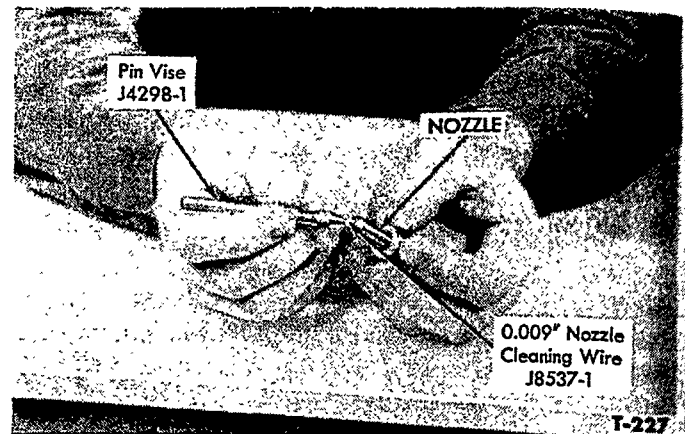

Figure 13—Cleaning Nozzle Discharge Holes
3. Clean the spray holes in the nozzle with the 0.009" Cleaning Wire J8537-1 and the Pin Vise J4298-1, Figure 13.
J4298-1. The wire should protrude from the vise just enough to pass through the holes in the nozzle to prevent breaking the wire. Rotate the vise slowly without applying undue pressure to the cleaning wire, Figure 13.